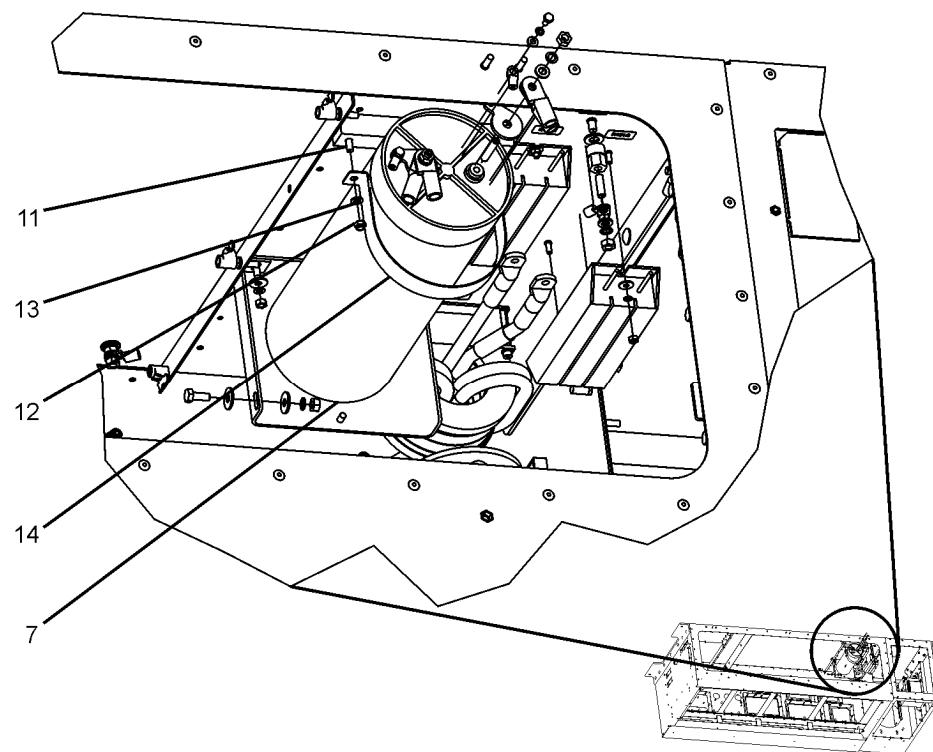
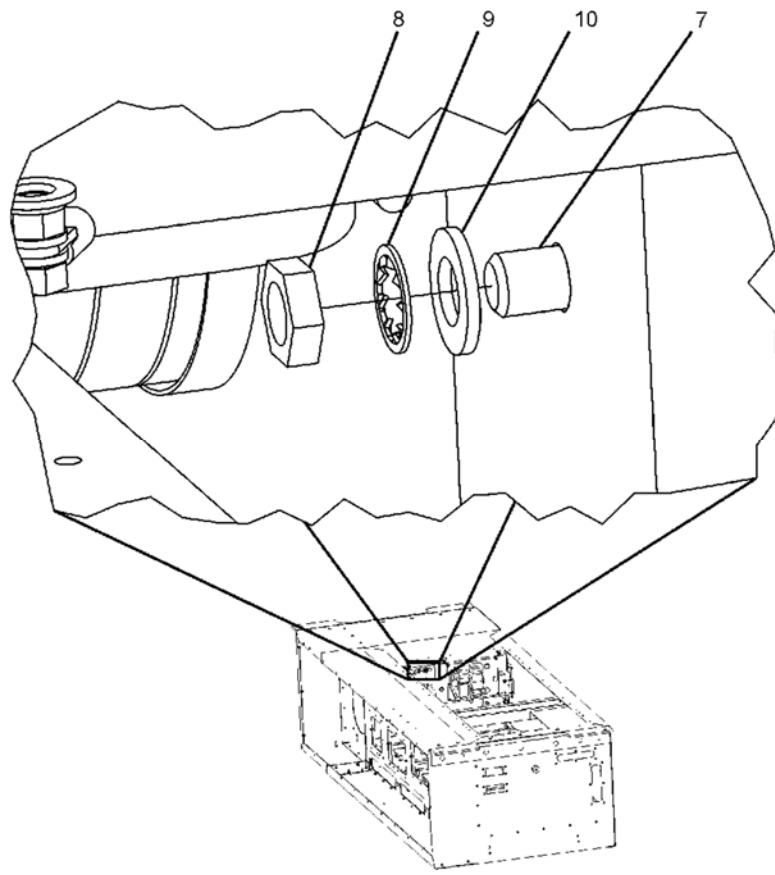

Figure 5-11: C101 Capacitor Mechanical Connections (Part 1)
Figure 5-12: C101 Capacitor Mechanical Connections (Part 2)
7. Detach C101 (see Figure 5-12). C101 (7) is mounted at the rear to a holding device using an M12 nut (8), M12 Schnorr washer (9) and M12 washer (10). Remove these fasteners to detach the C101.
8. Loosen C101 (see Figure 5-11). The C101 (7) is held in place against one holding device (11) by another holding device (14). Loosen the fasteners, an M5 locking nut (12) and an M5 washer (13) to loosen the C101.
- a. Insert C101 Capacitor (see Figure 5-11). Be sure the body of the capacitor (7) is within the holding devices (11 & 14) and that the threaded stud is firmly seated through the mounting plate as shown in Figure 5-12.
- b. Secure C101 (see Figure 5-11). The C101 (7) is held in place against one holding device (11) by another holding device (14). Tighten the fasteners, an M5 locking nut (12) and an M5 washer (13) to secure the C101.
- c. Attach C101 (see Figure 5-12). C101 (7) is mounted at the rear to a holding device using an M12 nut (8), M12 Schnorr washer (9) and M12 washer (10). Affix these fasteners to attach the C101. Tighten the nut to fit.